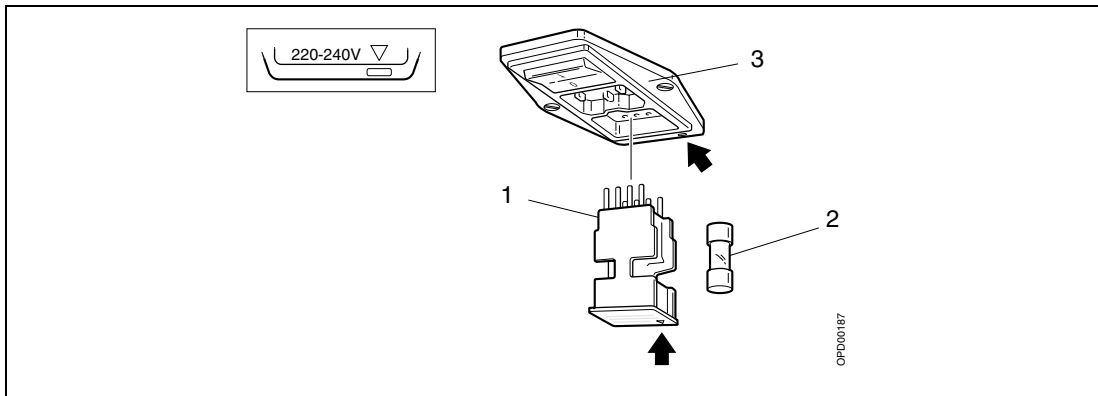

Fig. 6 Fuse in mains filter
The mains filter (3/Fig. 6) contains a fuse. To change fuse, proceed as follows:
1. Remove the fuse holder (1/Fig. 6) from the filter using a screwdriver and remove the old fuse (2/Fig. 6).
3. Insert the fuse holder into the filter according to Fig. 6.
The new fuse must be placed in the same position as the old one and the marks on the fuse holder and the mains filter must coincide, see Fig. 6.